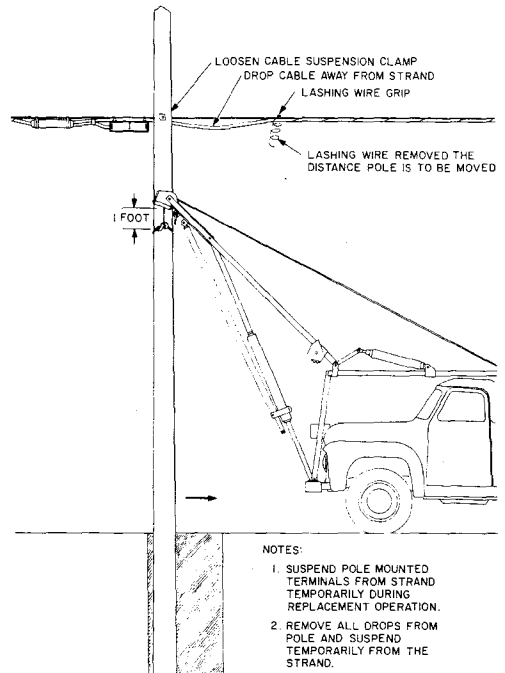

Fig. 4—Trenching Pole
3.06 Fig. 4, 5, and 6 illustrate the method for trenching the old pole and replacing it in its original location by the use of the pole derrick.
- (1) Position the derrick and take a slight strain on the winch line (Fig. 4).
- (2) Loosen the cable suspension clamp sufficiently to allow the strand to slip through it. If